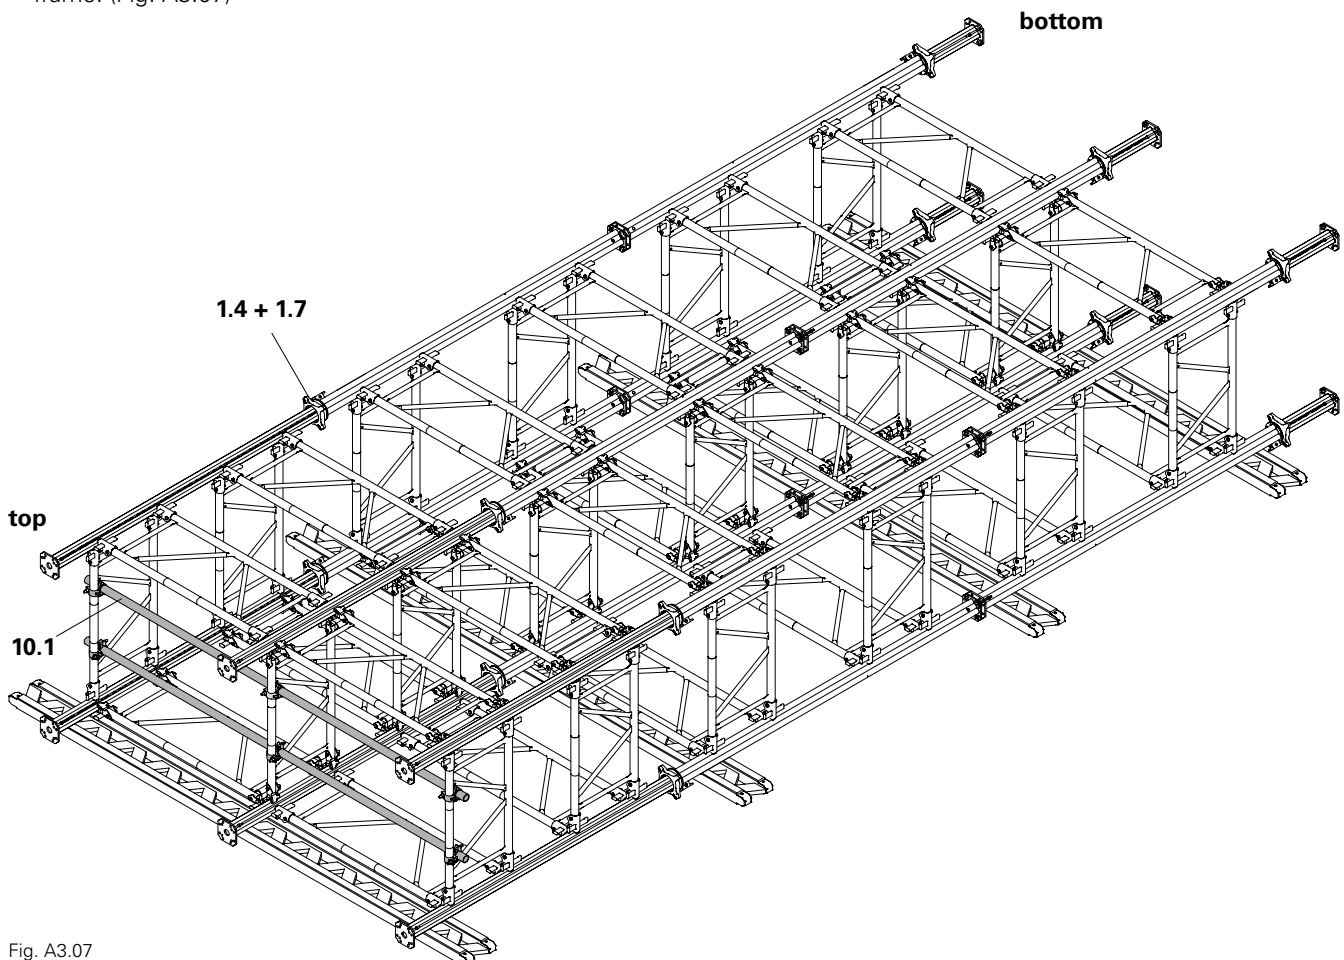

Fig. A3.07
- For the crane lifting gear, scaffold tubes (10.1) are to be mounted under the frame tubes of the topmost frame. (Fig. A3.07)